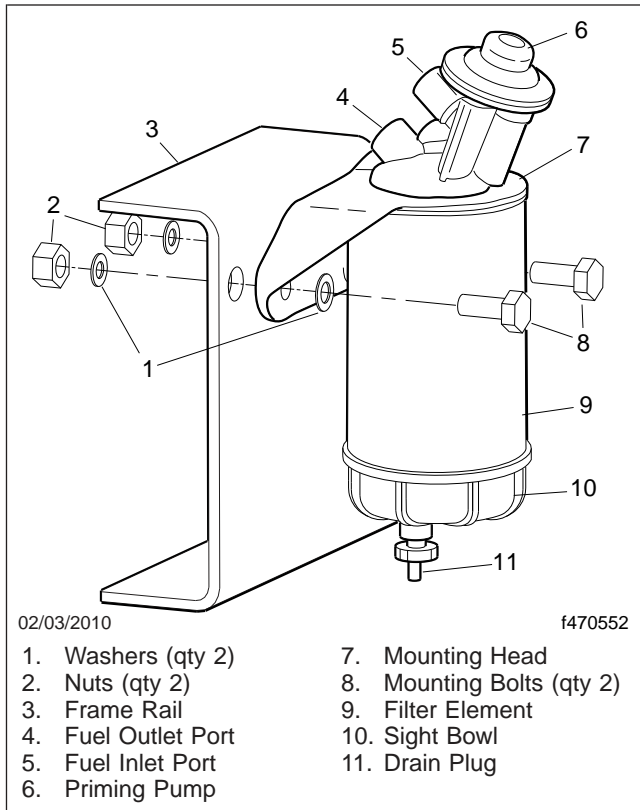

Fig. 21.12, Alliance Fuel/Water Separator Assembly and Installation
- 4.2 *Alliance/Racor Models:* Turn the drain plug counterclockwise to open it. See Fig. 21.12.